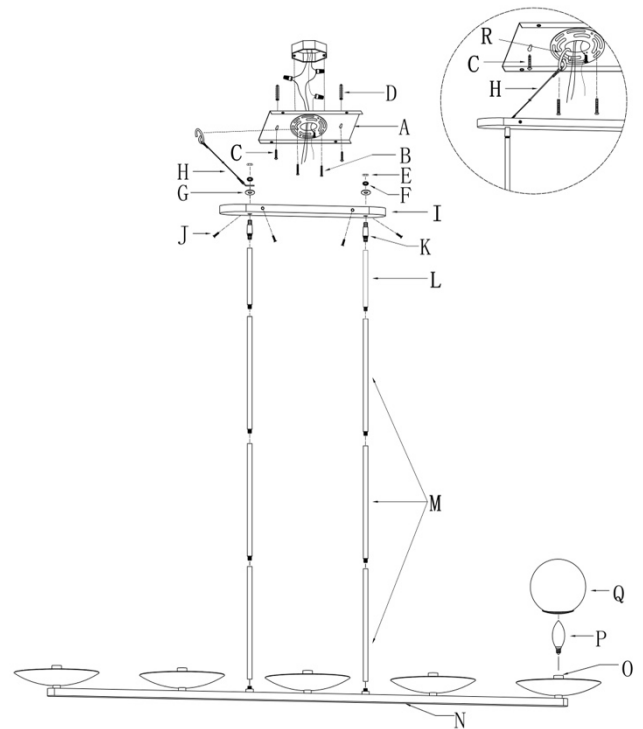

Fig. 2
CONNECTING THE WIRES (Fig. 2)
9. Connect electrical wires as shown in Fig.2, making sure that all wire connectors are secured. If your junction box has a ground wire (green or bare copper), connect the fixture's ground wire to it. Otherwise, connect the ground wire directly to the mounting plate (A) using the green screw provided.